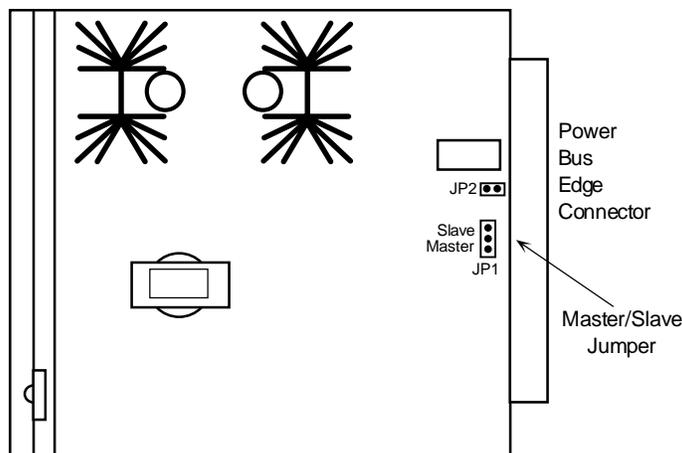

Figure 3-7. 105V Ringling Generator Jumper Setting
9. Make sure jumper W201 is installed if this is the only ringing generator in the unit, or if it is the MASTER ringing generator, Figure 3-7. If this is a SLAVE ringing generator, cut jumper W201 with wire cutters.